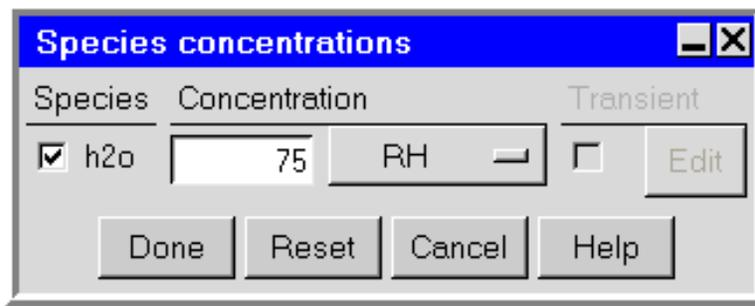

Figure 4.18: Species Concentrations Panel
*Airpak will open the Species concentrations panel (Figure 4.18).*